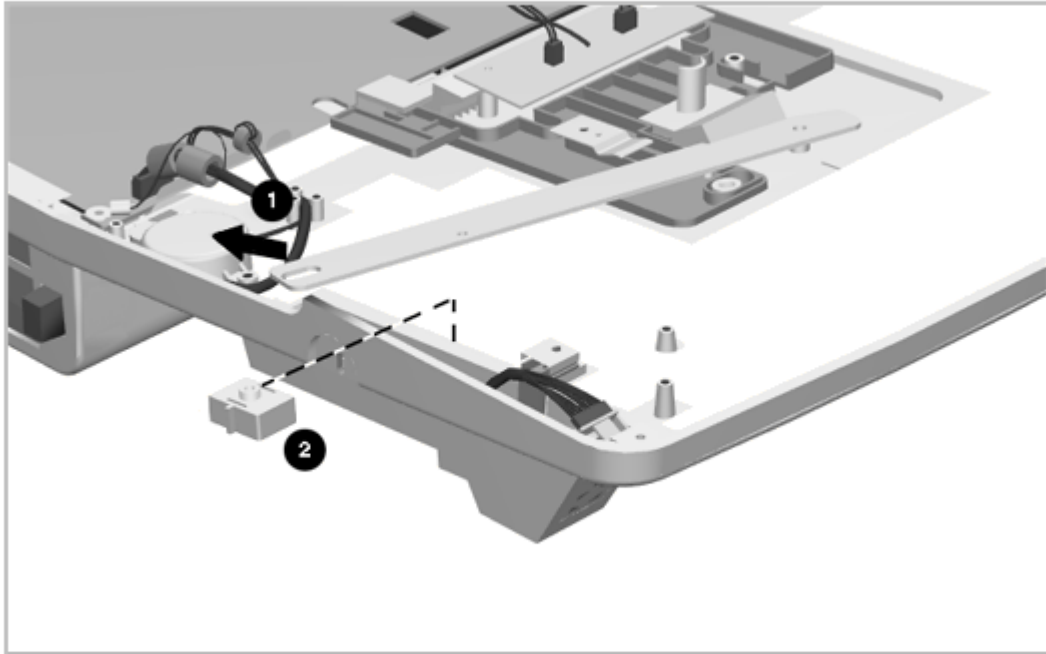

Figure 6-36. Removing the Docking Lever Slider
4. The docking lever slider is now free to be removed [1] (Figure 6-36). Note that the little tab on one side of the docking lever slider [2] goes toward the outside of the expansion base at reassembly.